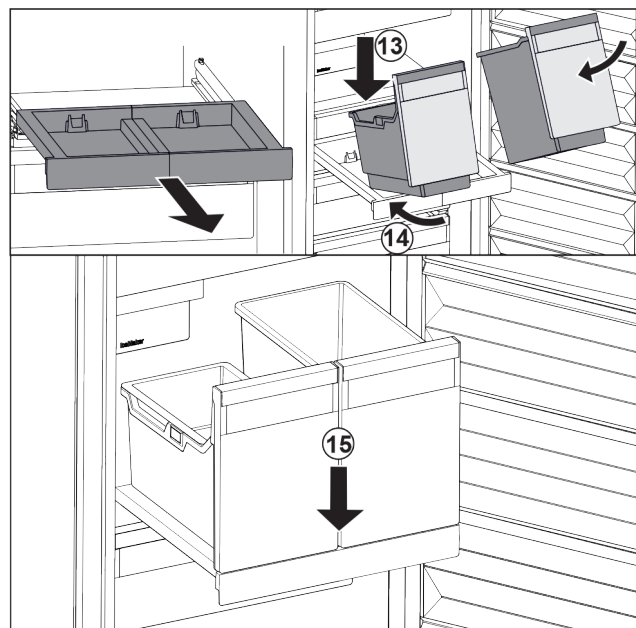

Fig. 37
- Place the container at an angle on the pull-out board. Fig. 37 (13)
- Slide in the container at an angle to the back. Fig. 37 (14)
- Place container at the front. Fig. 37 (15)